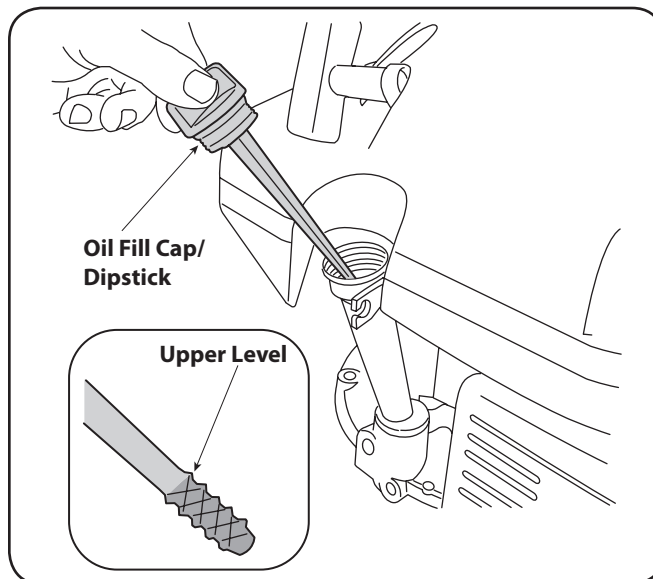

Figure 3-2
1. Remove the oil filler cap/dipstick and wipe the dipstick clean. See Figure 3-2.
3. Remove the oil filler cap/dipstick. If the level is low, slowly add oil until oil level registers between high (H) and low (L), Figure 3-2.
2. Insert the dipstick into the oil filler neck. Turn the dipstick a 1/4 turn into the locked position to fully seat. See Figure 3-2.
3. Remove dipstick. If the level is low, slowly add oil to the upper limit on the dipstick. See Figure 3-2 inset.